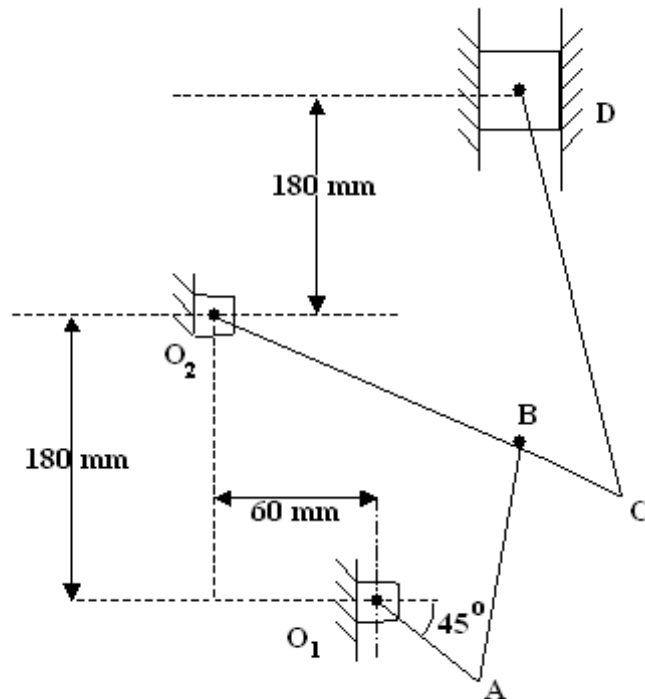

Figure 4
4. A mechanism as shown in Figure 4 has the following dimensions:  $O_1A = 60 \text{ mm}$ ;  $AB = 180 \text{ mm}$ ;  $O_2B = 100 \text{ mm}$ ;  $O_2C = 180 \text{ mm}$  and  $CD = 270 \text{ mm}$ . The crank  $O_1C = 180 \text{ mm}$  and  $CD = 270 \text{ mm}$ . The crank  $O_1A$  rotates clockwise at a uniform speed of 120 r.p.m. The block D moves in vertical guides. Find by instantaneous centre method, the velocity of D and the angular velocity of CD. [16]